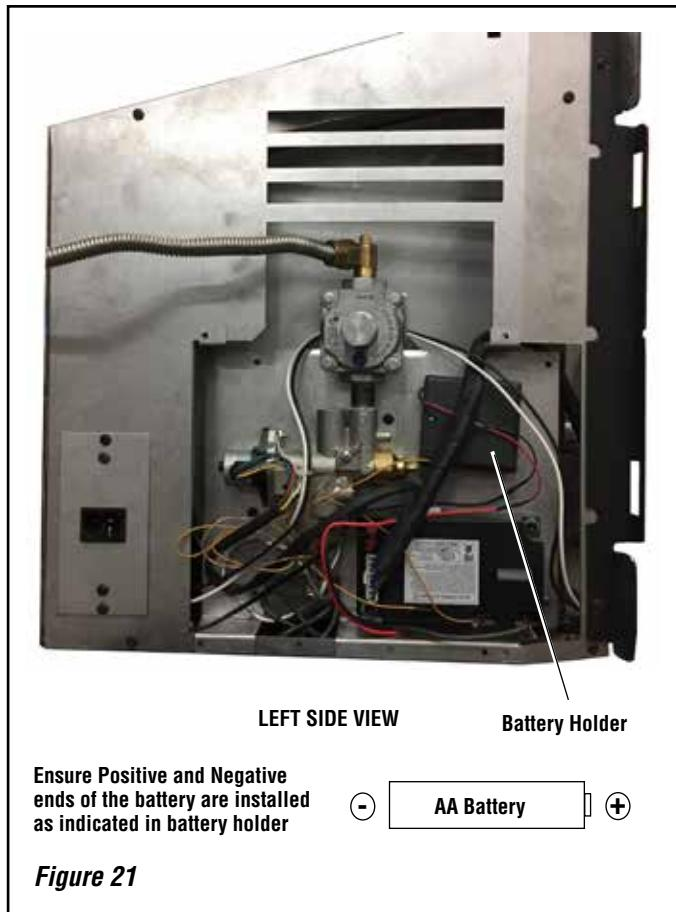

Figure 21
This appliance is equipped with a battery backup system. It requires four (4) "AA" batteries to power the appliance (without the blower) during a power outage. Install the batteries into the battery holder per instructions in *Figure 21*.